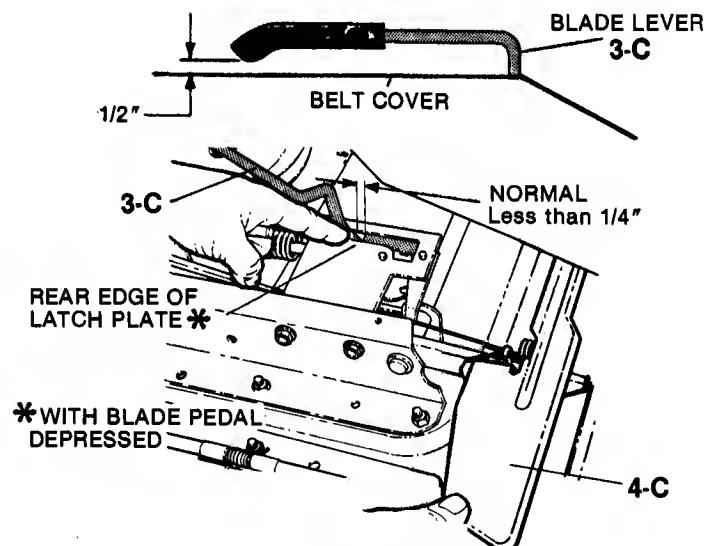

FIG. 10 - BLADE LEVER TRAVEL
STEP 4: Release the BLADE pedals to allow the BLADE lever to move to the OFF position, then depress the BLADE pedals again and check the clearance between forward edge of the BLADE lever and the rear edge of the latch plate which should be less than  $1/4"$  (FIG. 10). Repeat the procedure in step 2 if needed to obtain correct clearance. When correct, hold the BLADE lever rearward and turn the jam-nut tight against the T-nut to lock in new position. Reinstall BELT COVER.